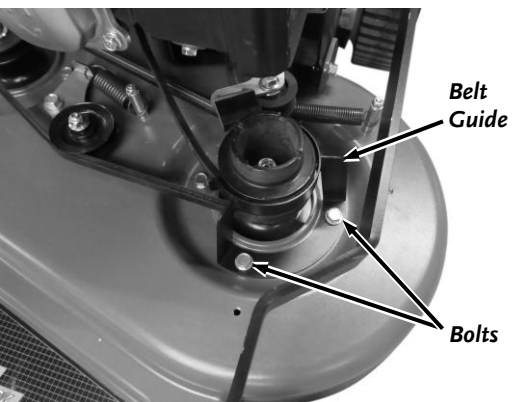

Figure 32
3. Remove the two Bolts securing the Blade Pulley Belt Guide using a 9/16" Wrench and remove the Guide (**Figure 32**).
8. Reinstall the Belt Guide (Figure 32).